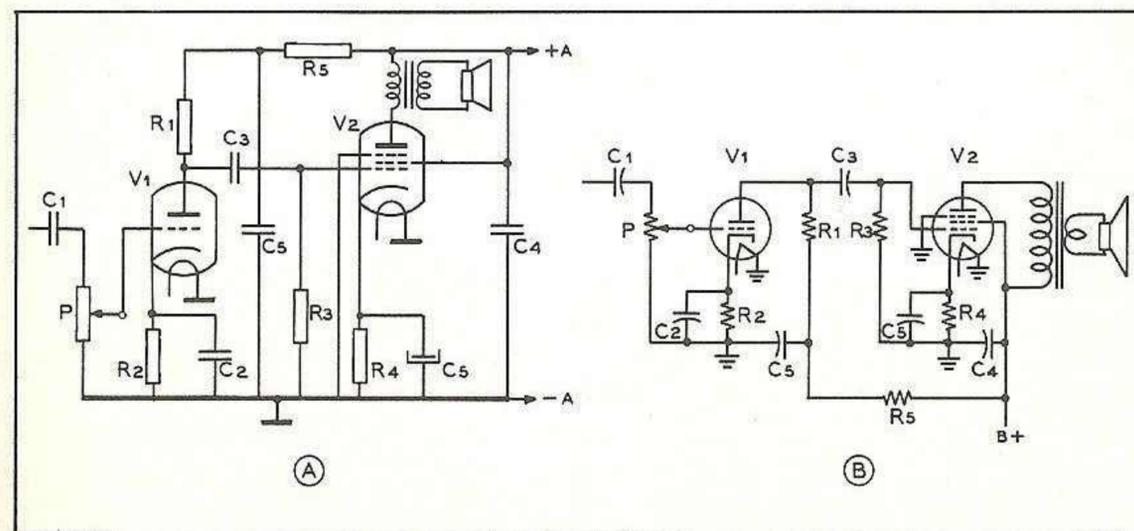

Fig. 4 Other countries have different radio symbols than those common in U.S.A.
vacuum tubes present a simplified picture of the elements of the tube and usually show the numbers that correspond to the pin connections of the tube base. Some publications prefer to label the components as R1, C2, T4, and so on, and place below the schematic a list tabulating the values of the components. By studying the various styles you will improve your ability to interpret schematics and, in turn, your knowledge of electronic techniques. In passing, it should be noted that many European countries employ symbols strikingly different than those we are used to. Shown in Figure 4 is a typical circuit, drawn in the two different styles. Compare them and note the difference in the symbols. Which system do you think is best?
**Fig. 4** Simple radio frequency amplifier placed ahead of mixer tube reduces tendency of superhetrodyne circuit to receive two frequencies at once. R-f amplifier reduces response to unwanted signal by large amount.
The main drawback of the superhetrodyne receiver is that it is capable of simultaneous reception on two different frequencies at the same time. The unwanted frequency is called the *image frequency*. Reception of the image signal may be substantially eliminated by the use of a radio frequency amplifier stage placed ahead of the converter stage of the receiver. The image frequency is displaced from the wanted frequency by twice the amount of the intermediate frequency. Thus, if we were listening to a station on 14,000 kc with a receiver having a 455 kc i-f stage, a signal on the image frequency of 14,910 could be heard in the receiver. A good r-f stage can amplify the 14,000 kc signal and reject the image signal. Many of the inexpensive short wave receivers on the market have no r-f stage for reasons of economy, and these receivers are bothered by unwanted image signals. The r-f amplifier stage also increases the overall sensitivity of the receiver to a great degree. No shortwave receiver can be called a true communications receiver unless it has a good r-f amplifier stage ahead of the first converter tube, similar to that shown in Figure 4.